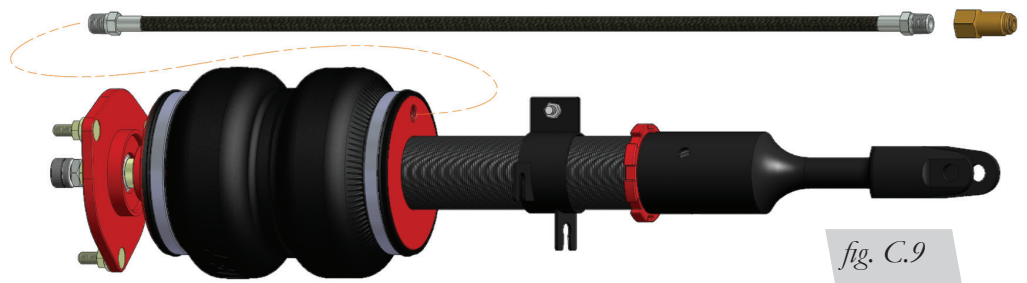

fig. C.9
1. Begin by installing the leader hose into the air spring. Apply thread sealant to the threads of the leader hose. Tighten the appropriate fitting to the airline (1 3/4 turns beyond hand-tight). Tighten the leader hose into the air spring 1 3/4 turns beyond hand-tight. (Fig. C.9)